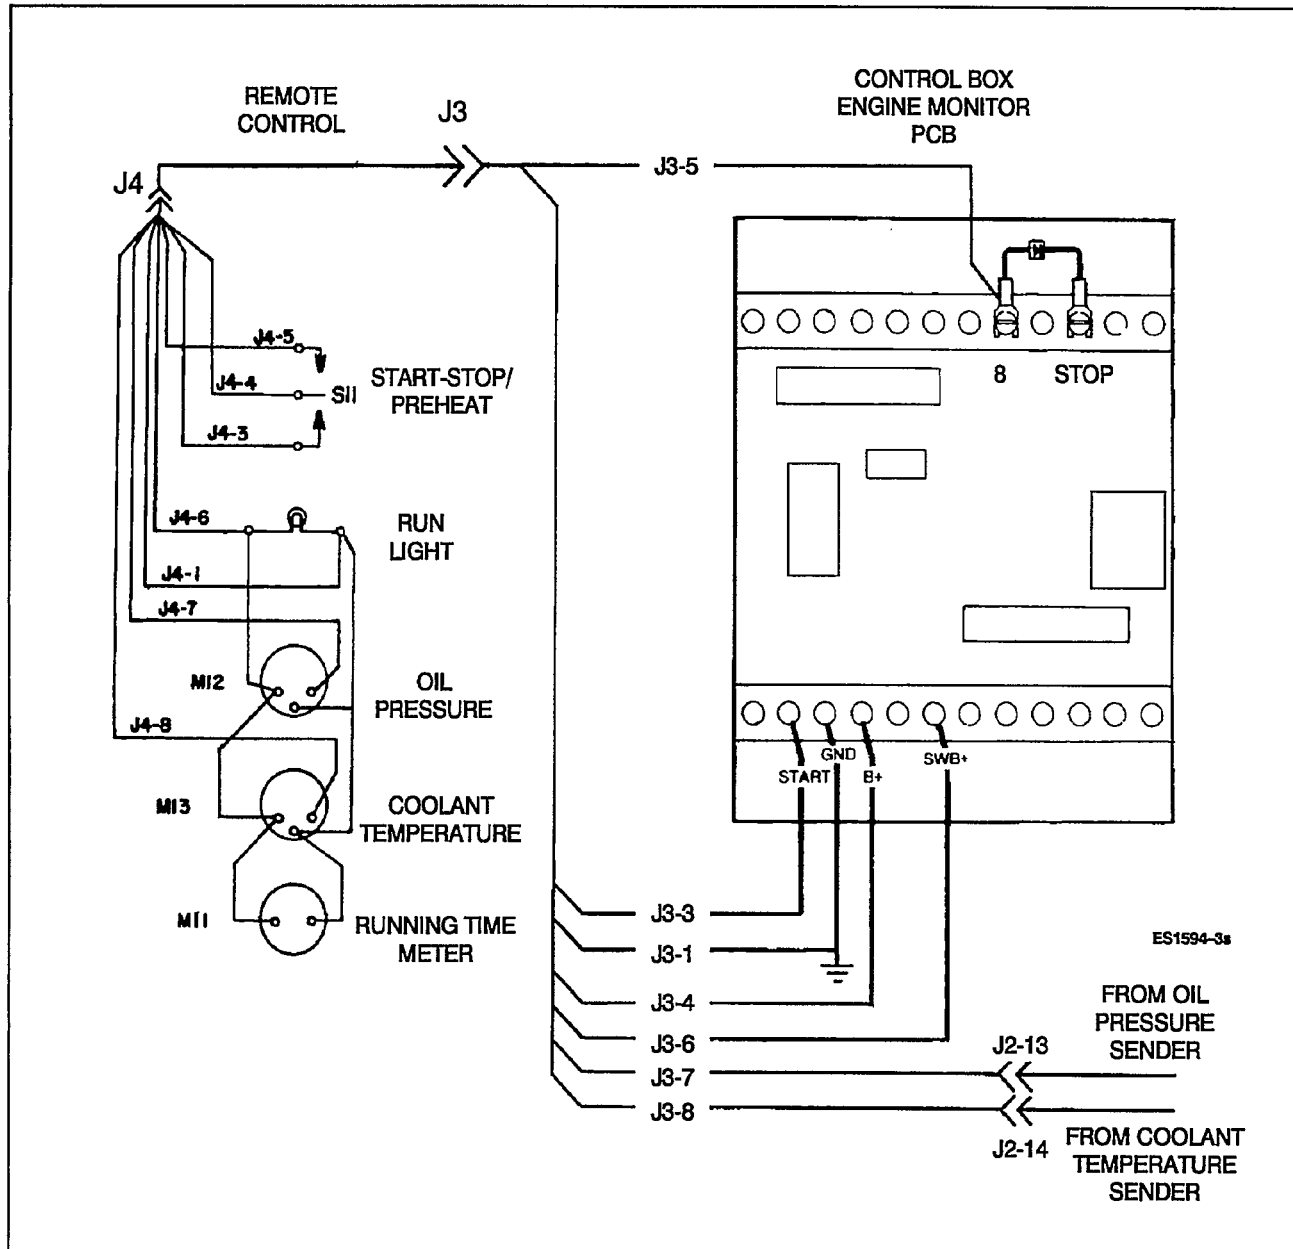

FIGURE 9-2. REMOTE CONTROL CONNECTIONS
The wiring diagram in Figure 9-2 is furnished so a harness can be fabricated if desired. Use 16 AWG wire. The electrical code does not allow the remote control harness/wiring to be routed through the same conduit as the AC load wiring. Follow all national electrical codes and any local codes that may apply.
5. Connect an accurate AC voltmeter and frequency meter across two line terminals. Apply load to the generator and check output voltage and frequency. The voltage can be adjusted if not within specs shown in Figure 9-2 for the generator connection used, per the following procedure.